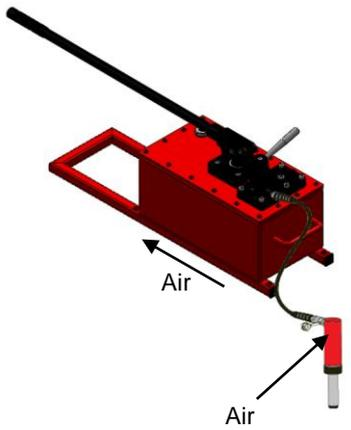

Fig 6.2: Bleeding of single acting cylinder
- With all hydraulic connections made, position the cylinder/s below the level of the hydraulic pump, as illustrated (Fig 6.2).